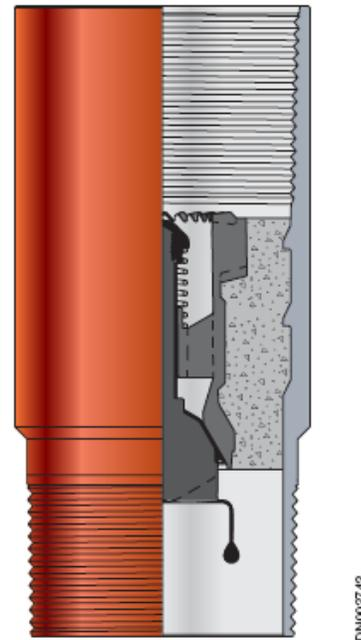

Figure 1.6.A—Super Seal II NR float collar
Super Seal II™ nonrotating (NR) float collars (**Figure 1.6.A**) offer all the features of standard Super Seal II float collars, but are equipped with an NR plug seat that allows NR cementing plugs with locking teeth to latch together for improved drillout times with fixed cutter bits. When the NR plastic insert plugs are drilled out with PDC or other fixed cutter bits, drillout time can be reduced by 90%. The NR feature helps prevent long drillout times by preventing the cementing plugs from spinning on top of the float collar.
**Figures 1.6.B** and **1.6.C** show the various Super Seal II NR float collars. **Tables 1.6.A** through **1.6.D** provide details about the 24-tooth NR Super Seal II float collars.
High-strength float equipment is available in 9 5/8-in., 10 3/4-in., and 13 3/8-in. casing sizes and are rated to the differential pressures specified in **Table 1.6.E**. **Figure 1.6.D** shows a high-strength float collar.